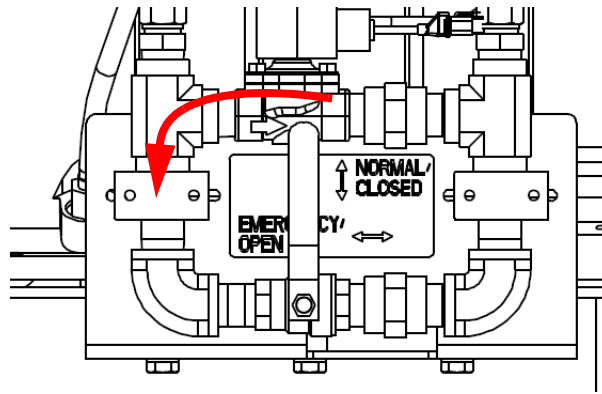

Figure 4-1 Fuel Bypass Valve
1. As shown in Figure 4-1, open the fuel bypass valve in the fuel bypass loop.